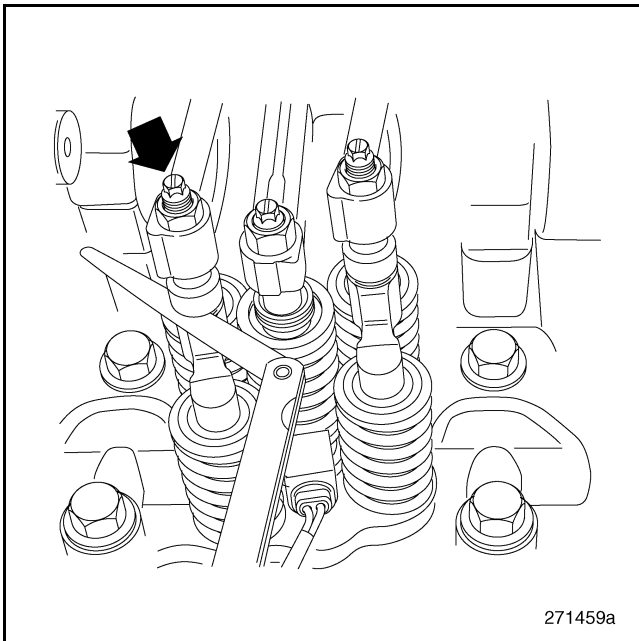

Figure 533 — Checking Inlet Valve Clearance
2. Using a feeler gauge, check the clearance between the rocker arm adjusting screw and the valve yoke (bridge) of the inlet valves. Refer to Figure 533.